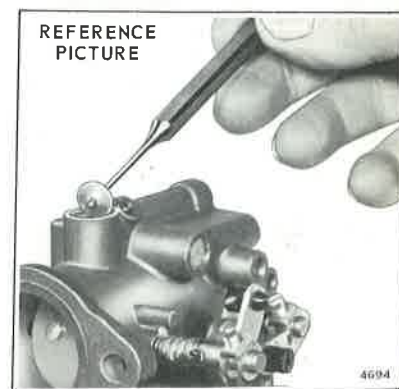

Figure 3-14. Removing Core Plug
b. If leakage persists, drill a 1/8 inch hole through the center of the core plug to a depth of not more than 1/16 inch below its surface. With a punch, carefully pry out the core plug. See Figure 3-14.